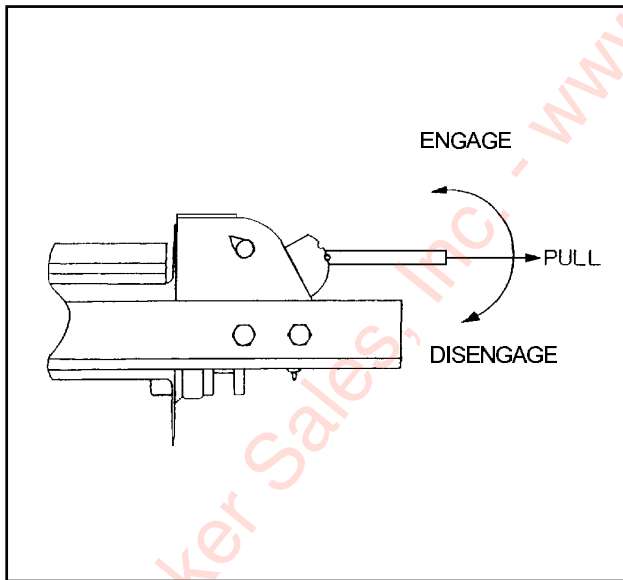
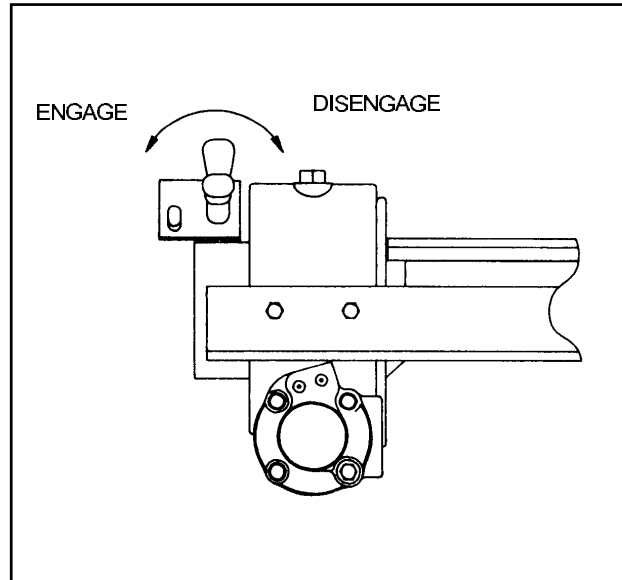

Figure 3-8 12,000# Winch Clutch
Figure 3-9 20,000# Winch Clutch
3-16.2 The **WINCH CLUTCH HANDLE** (See **Figure 3-8 and 3-9**) is located on the right or curb-side end of the winch assembly. The function of the **WINCH CLUTCH HANDLE** is to engage or disengage the winch, allowing it to respond to the **WINCH HYDRAULIC LEVER**. For trailers equipped with optional **PNEUMATIC WINCH CONTROL** (20,000 lb. and 30,000 lb. winches only), the control is a switch on the control panel (See **Figure 3-9**). If the semitrailer also has the optional winch air tensioner, it also is controlled by the same switch on the control panel. For the 20,000 lb. and 30,000 lb. winch, this switch controls both the clutch and the winch air tensioner simultaneously. For the 12,000 lb. winch, this switch controls only the air tensioner.
- a. The **12,000 lb. WINCH CLUTCH HANDLE** has two positions: (See **Figure 3-8**)
- b. The **20,000 lb WINCH CLUTCH HANDLE** has two positions. (See **Figure 3-9**).